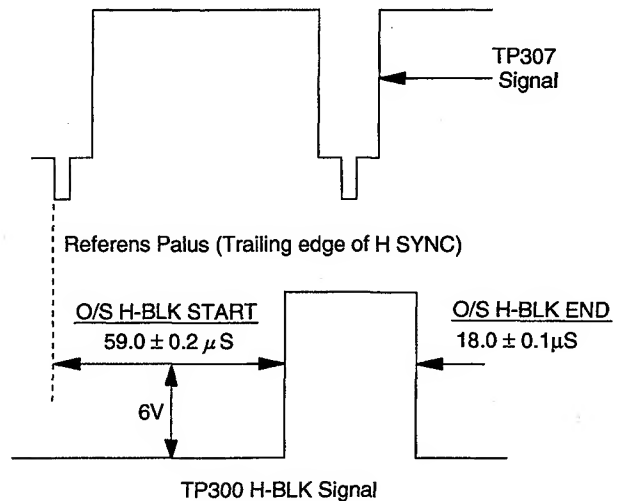

Fig.5-4
5. Observe the anode of TP307 and TP300 or D516 with an oscilloscope, and adjust O/S H-BLK START and O/S H-BLK END so that the waveform will be as shown in Fig.5-4.